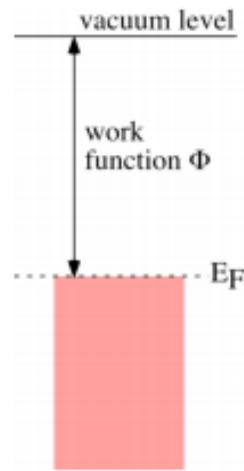

Fig.1: Schematic energy diagram of a metal.
**Figure 1 | Electrochemical cell for photoelectron spectroscopy.** Schematic drawing of a PEM fuel cell set-up for APXPS investigations: the electrochemical cell has a Nafion membrane coated on both sides with a mixture of Nafion and carbon-supported Pt nanoparticles with catalyst loading of  $4 \text{ mg cm}^{-2}$  (particle size 10-20 nm), which serve as anode and cathode. The cathode side of the assembly was exposed to the APXPS gas cell, which was filled with oxygen gas. The anode chamber was filled with humidified forming gas (95%  $\text{N}_2$ /5%  $\text{H}_2$ , saturated  $\text{H}_2\text{O}$ ). The voltmeter and galvanometer used for measurements are denoted by V and A, respectively. By connecting both electrodes to an external voltmeter or galvanometer, we can simultaneously record both XPS and either cell voltage or cell current.